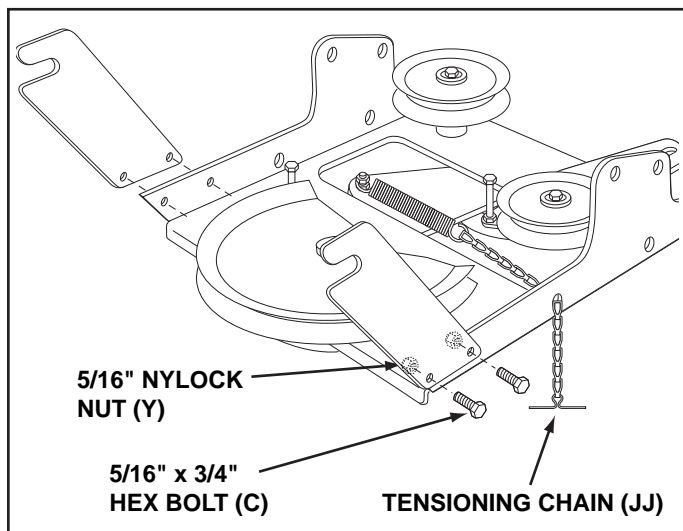

FIGURE 8
STEP 8: (SEE FIGURE 8)
- Attach the two suspension arms to the rear of the clutch/idler assembly using two 5/16" x 3/4" hex bolts (C) and 5/16" nylock nuts (Y) for each arm. Place the arms on the outside of the frame with the notches to the rear.